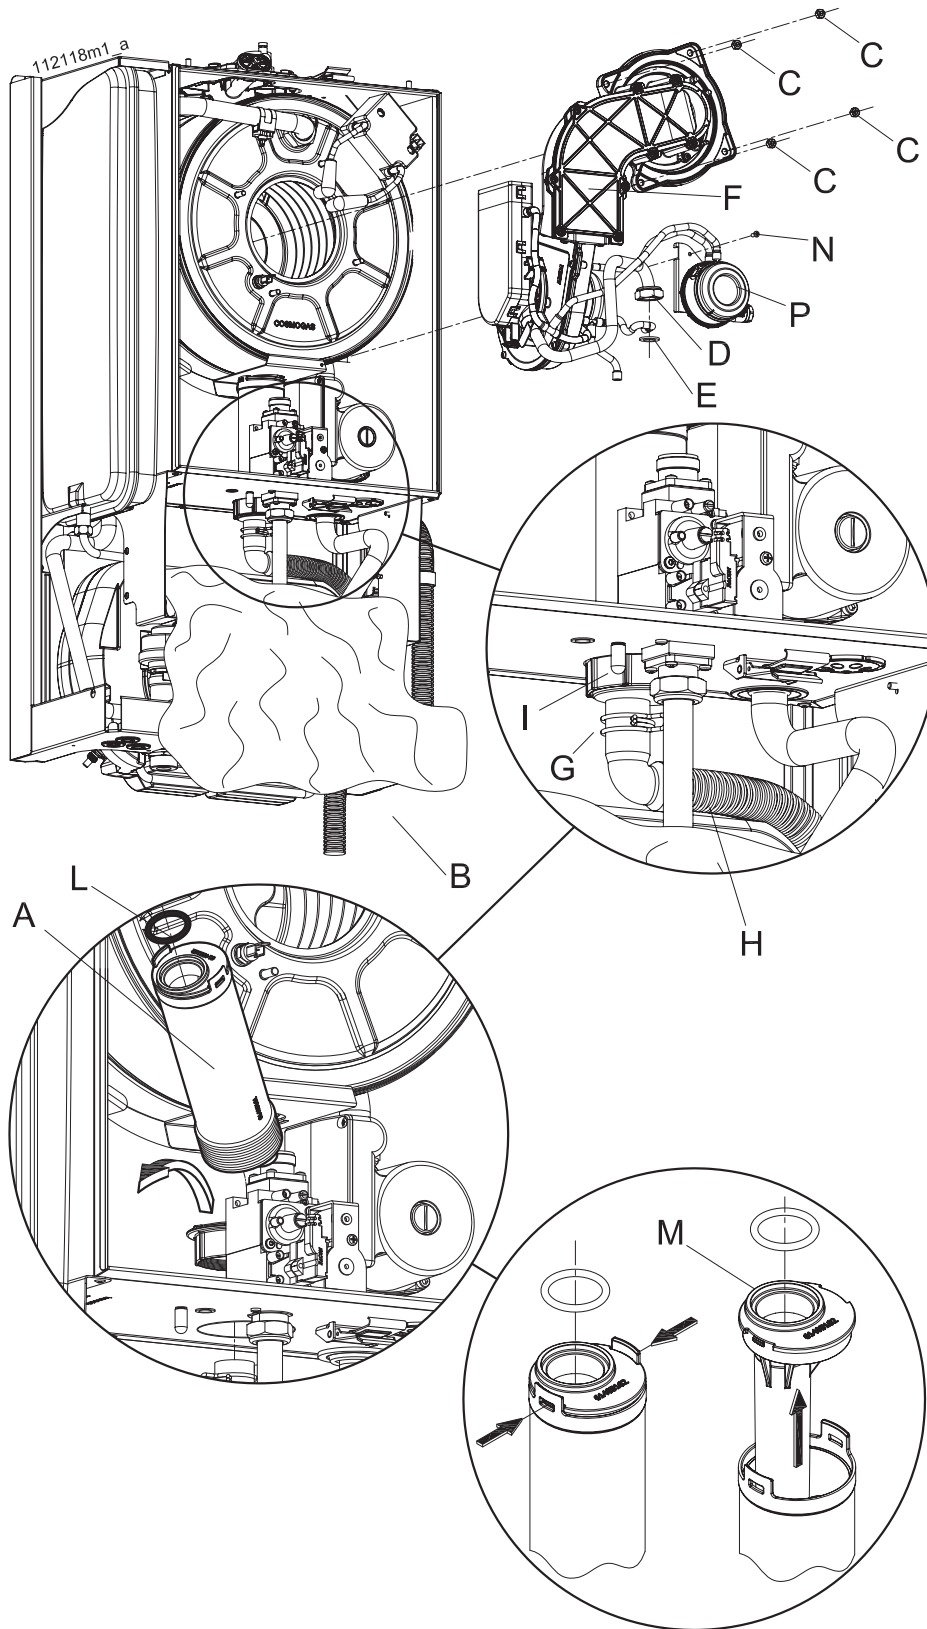

Figure 46 - Removing the condensing trap
2. unscrew nut "D" from the gas valve (taking care not to loose gasket "E" in figure 46);
The condensate trap must be cleaned every year. Follow the steps below to properly clean the condensate trap and its associated components while referring to figure 46: